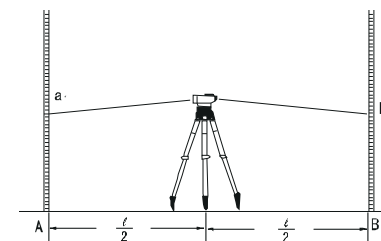

Fig.12
- (1)Set the instrument halfway between A and B, staff A and B shall be 30~40M away, the readings are a_1, b_1 (Fig.12)